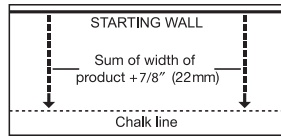

Figure 7
- Undercut door casings and jambs. Remove any existing base, shoe mold or doorway thresholds. These items can be replaced after installation. All door casings and jambs should be undercut to avoid difficult scribe cuts (Figure 7).
- In at least two places at least 18" (46 cm) from the corner, measure out equal distance from the starting wall (Figure 7) and snap a chalk line. The measurement must be the sum of the width of the flooring plus an additional 7/8" (22 mm) to allow for 3/4" (19 mm) expansion space and the width of the tongue. Continue to Step 3 Glue-Down Installations.